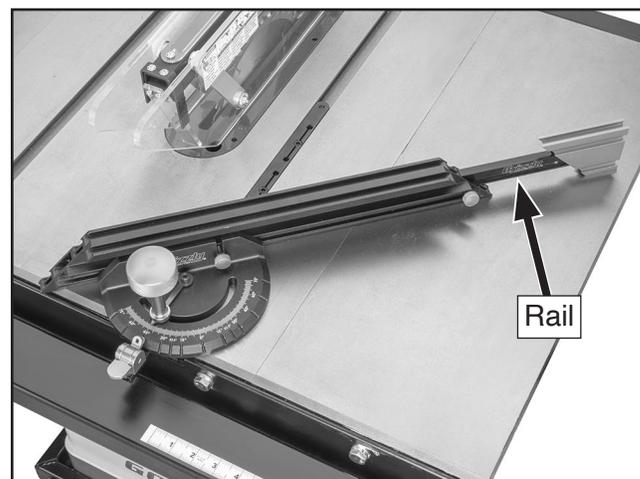

Figure 12. Extension fence installed on opposite side of fence.
- Turn extension fence and rail around, then insert rail into opposite end of fence (see **Figure 12**).
- Secure with lock knob removed in **Step 1** (see **Figure 12**).